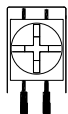

Figure 4:
- Break all in-out wire runs on supervised circuits to assure integrity of circuit supervision as shown in Figure 4.